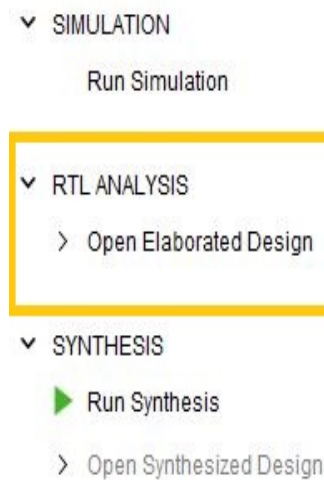

FIGURE 1.11: Opening Eleborate Design
4. In the Flow navigator, click *Open Elaborated Design* in the *RTL Analysis*. (Figure 1.11)
10. You can view your Schematic Design under *Synthesis*. (Figure 1.11)